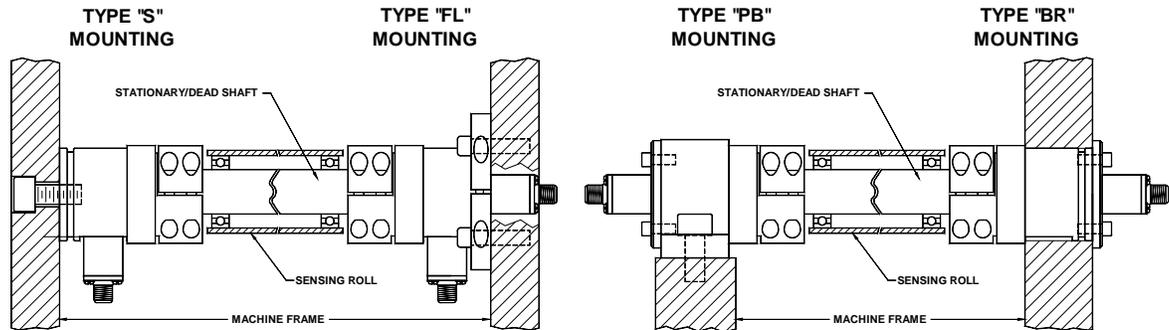

Figure 7 Cartridge Cell Transducer Mounting Types
Cartridge Cell Transducers can be mounted four different ways: Flange (FL), Stud (S), Pillow Block (PB) and Bearing (BB) that incorporate their own low friction bearings. Figure 7 shows these four mounting types. Refer to Section 4.2.2 for more information on Mounting Configurations.